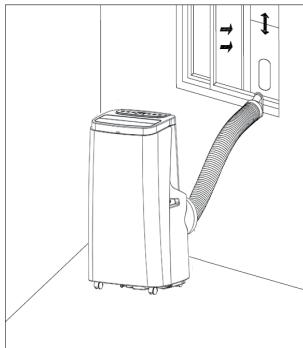
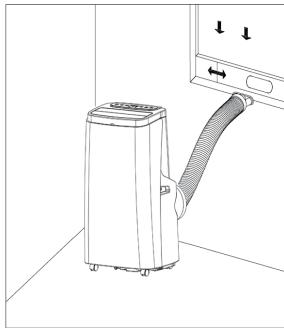

Figure 5
Figure 6
- Elongate the exhaust pipe and snap the flat end of the exhaust pipe joints into the hole of the window sealing plate assembly (as shown in Fig.5 and Fig.6).